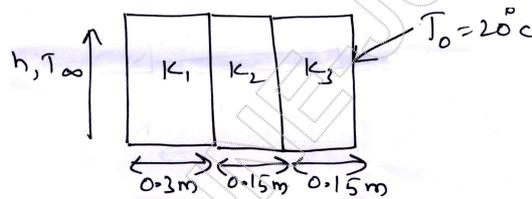

Fig.Q7(b) (12 Marks)
b. A composite slab consists of three materials with thermal conductivities of $20 \text{ W/m}^\circ\text{C}$, $30 \text{ W/m}^\circ\text{C}$, $50 \text{ W/m}^\circ\text{C}$ and thickness 0.3 m , 0.15 m and 0.15 m respectively as shown in Fig.Q7(b). The outer surface is at 20°C and the inner surface is exposed to the convective heat transfer coefficient of $25 \text{ W/m}^2\text{C}$ and a medium at 800°C . Determine the nodal temperatures.